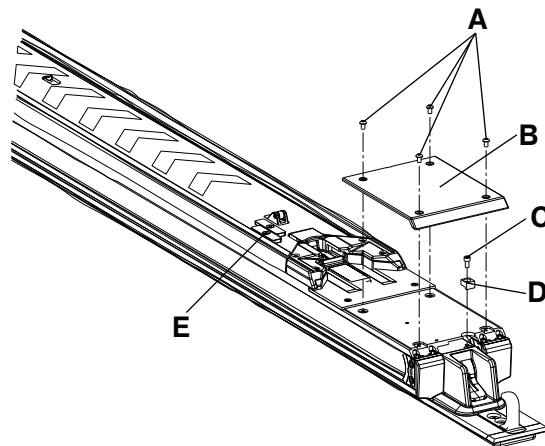

Figure 2: Foot end transfer components
3. Using a T25 Torx driver, remove the four screws (A) that secure the foot end transfer wear pad (B) to the transfer extrusion (Figure 2 on page 37).
4. Using a 5/32" hex wrench, remove the screw (C) that secures the trolley magnet activator (D) to the anchor extrusion to remove the trolley magnet activator (Figure 2 on page 37).
5. Slide both transfer lock triggers (E) to extend and pull the transfer off of the anchor completely (Figure 2 on page 37).